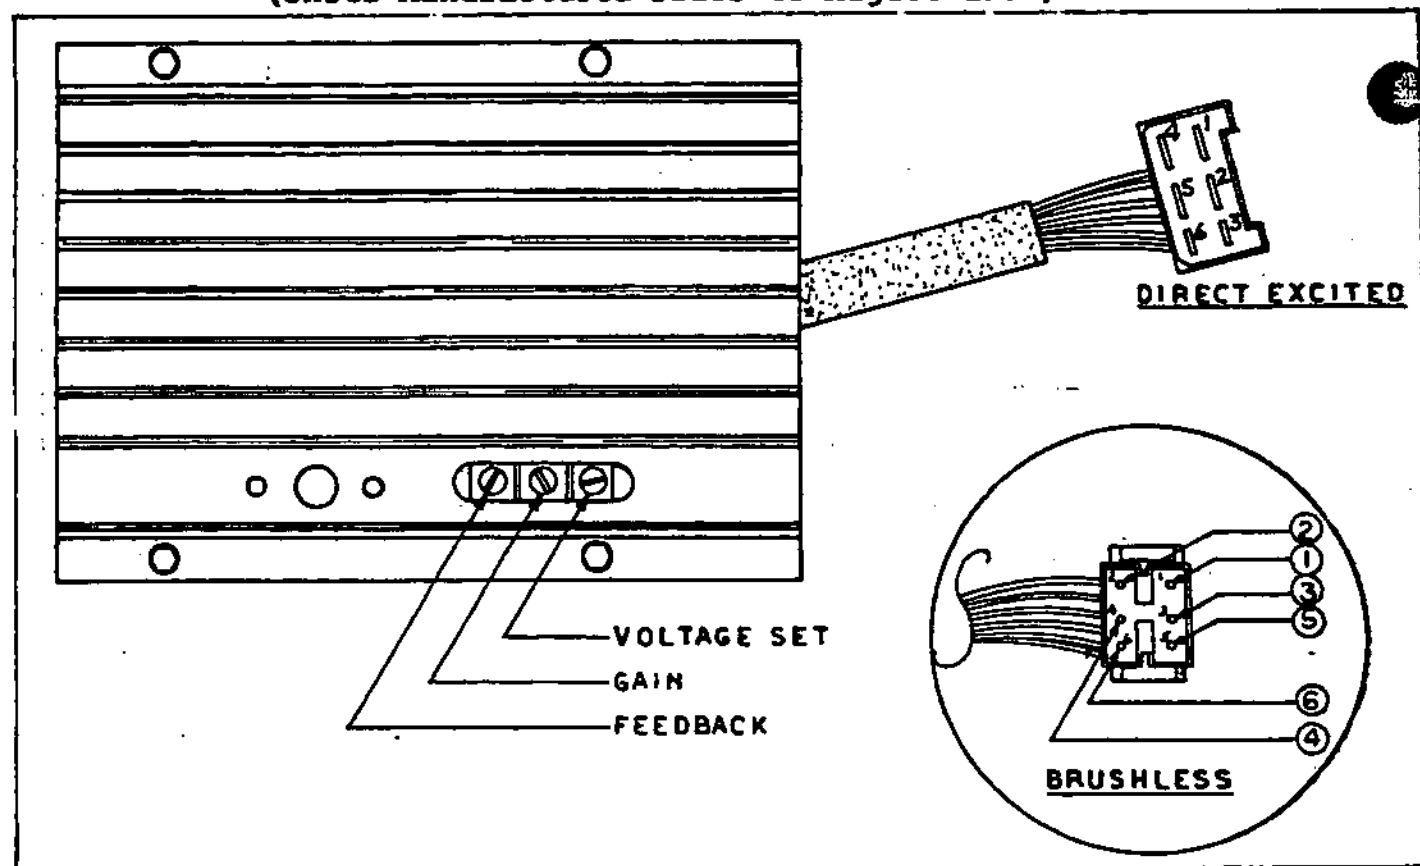

Figure 3.3-B. Voltage Regulator
3.3.3- 16-PIN RECEPTACLE (Figure 3.3-A, 3.3-C)